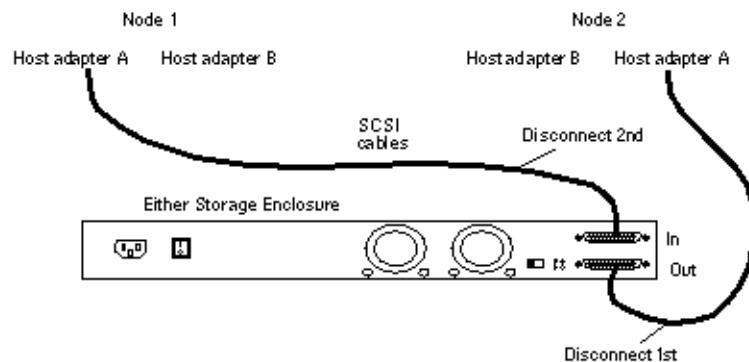

FIGURE 1–7 Replacing a Storage Array
- 12. Connect the storage arrays to the host adapters by using SCSI cables, as shown in Figure 1–6.**
3. Disconnect the SCSI cables from the storage arrays. Disconnect the cable on the SCSI OUT connector, and then disconnect the cable on the SCSI IN connector as shown in Figure 1–7.
6. Connect the SCSI cables to the new storage arrays. Reverse the order in which you disconnected the SCSI cables as shown in Figure 1–7.
2. **Disconnect the SCSI cables from the storage arrays. Disconnect the SCSI cable in the order that is shown in Figure 1–8.**